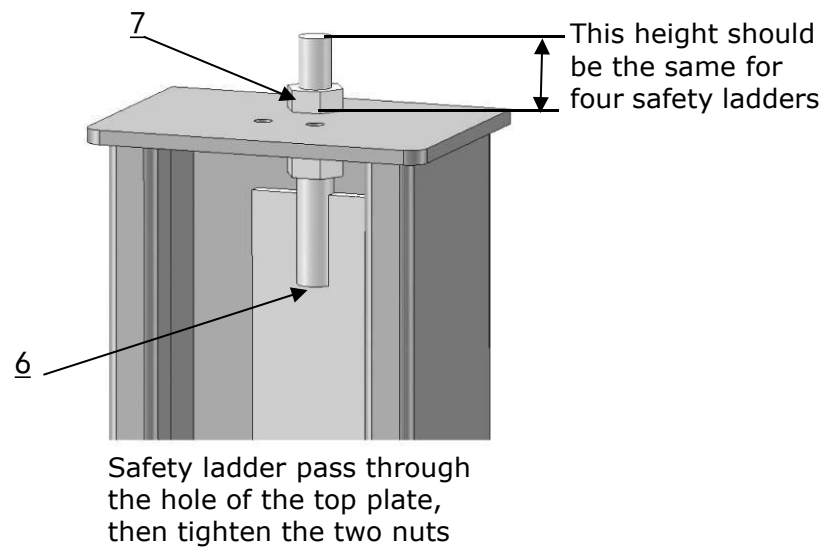

Fig. 19
2. Install safety ladders (See Fig. 19).